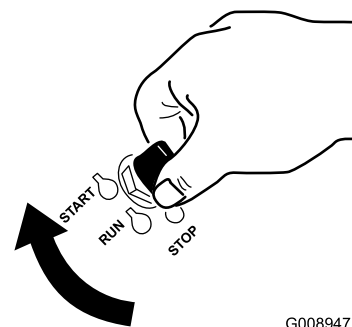

Figure 16
1. Turn the ignition key to the START position (Figure 16).
6. Turn the ignition key to the START position (Figure 16). When the engine starts, release the key.